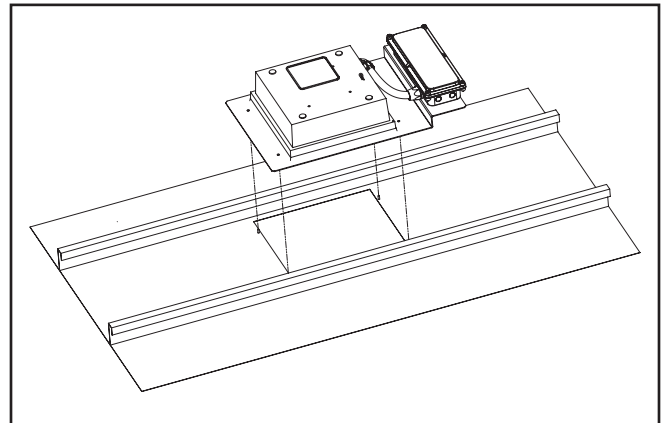

Figure 4.
- Align the four sheet metal screws that were drilled into the canopy with the four hole openings in fixture frame (Figure 4).